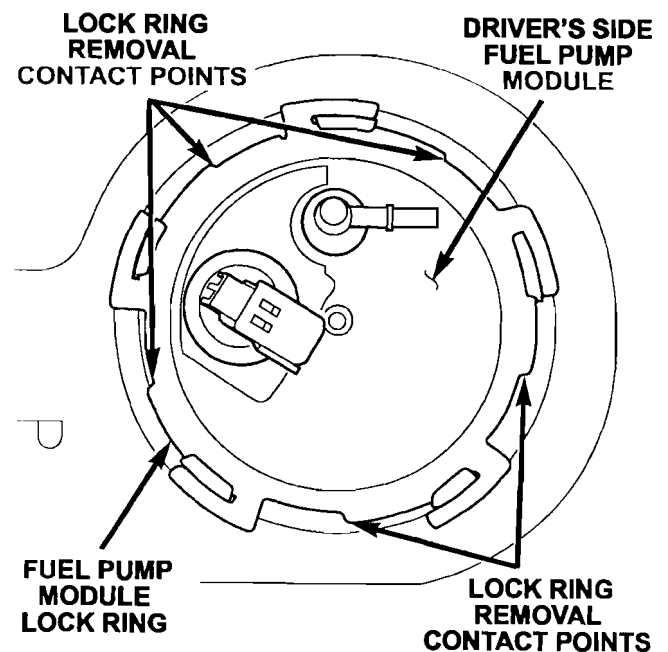

Figure 6
7. Using a brass punch and hammer, remove the driver's side fuel pump module lock ring (Figure 6).
**NOTE:** Use a brass punch to rotate the lock ring 1/4 turn. Make contact only at the points shown in Figure 6.